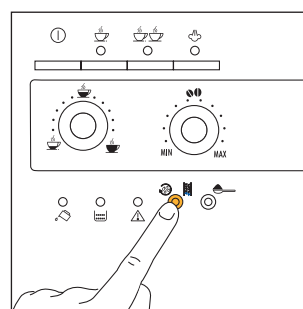

Fig. 14
1) ) If, when the machine has just been turned on, a short cup of coffee is required (less than 60cc), use the hot rinsing water to pre-heat the cups (see the suggestion in par. 4.3, point 5). If, on the other hand, more than 2/3 minutes have elapsed since the last coffee was made, before preparing **another coffee the infuser must be pre-heated, pressing the  button** (Fig. 14).